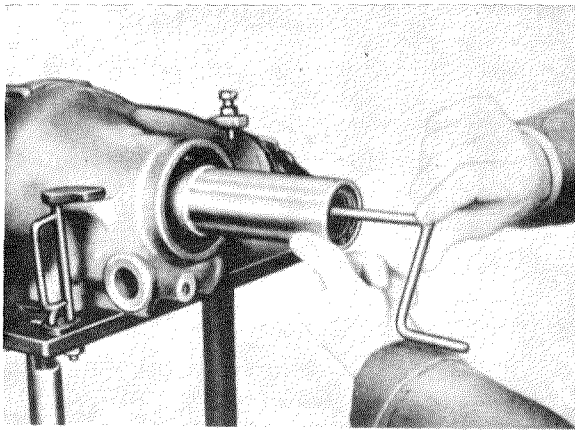

Fig. 35—4/22
62. Hold the left rear axle shaft and the flange of the drive pinion shaft, in order to loosen the clamping screw (22). Then unscrew the clamping screw (22) which fixes the slip coupling (24) to the right differential side gear and take out the slip coupling with compensating washer (Figs. 35—4/21 and 35—4/22).